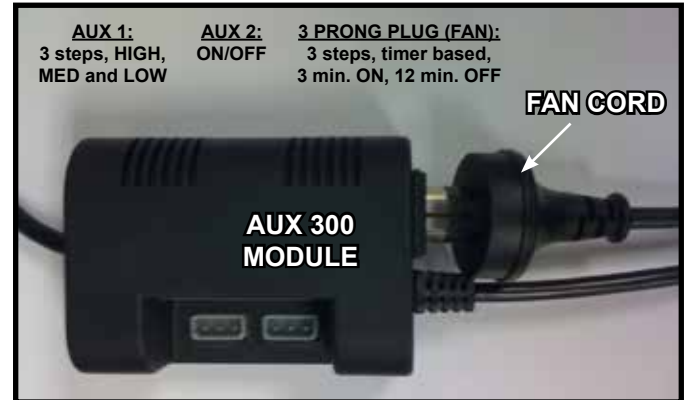

Figure 12.10 Plug Fan into AUX300CE Module
- Insert the 3 prong plug from the fan into the receptacle located in the AUX300CE module. See Figure 12.10.
- Move switch to **OFF** (See Figure 12.10).